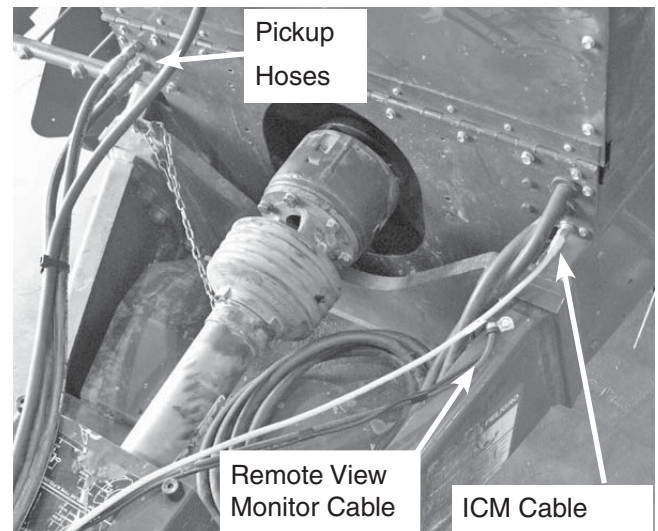

Figure 1-19 - Hydraulic and Electrical Outlets
- Connect hoses from tractor to pickup lift outlets on baler (see Figure 1-19).
Route and connect In-Cab Monitor and Remote View Monitor (RVM) cables from baler to cab. (See Figure 1-19).